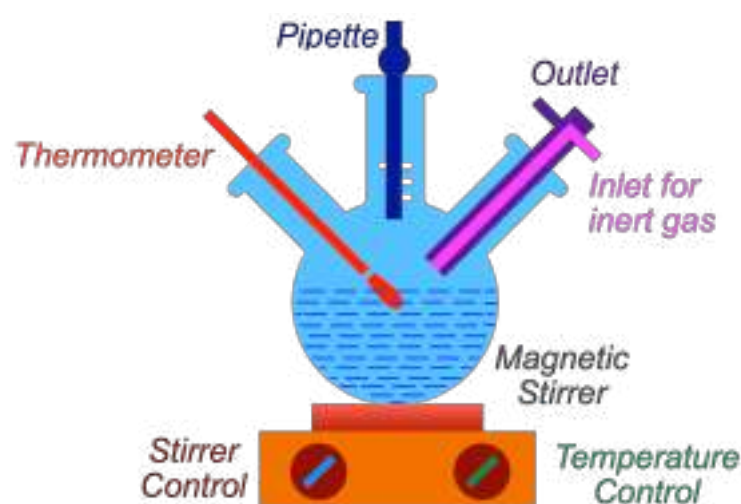

Fig. 29: Schematic of Synthesis of colloids
- Colloidal dispersions in organic liquids are called organosols and dispersions in water are called hydrosols. Nanoparticles of nearly the same size can be obtained by controlling the concentration of reactants in the solution. Fig. 29 shows experimental set up to synthesize colloidal solution in which 3 neck flask is used which is rested on a hot plate embeded with magnetic stirrer.